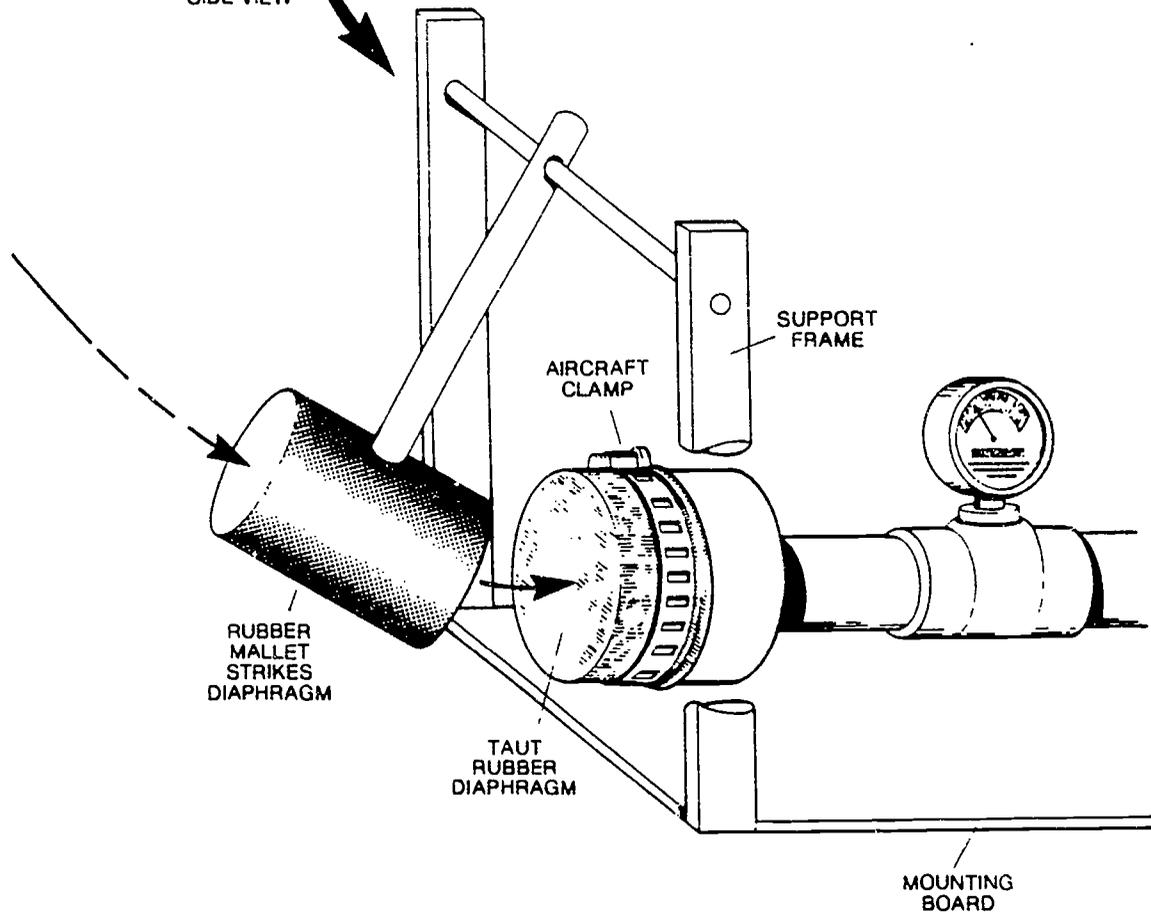

Fig. 5 Lab setup for hydraulic-shock device.
1. Study Figure 5. The pipe assembly, from rubber diaphragm to porthole in bucket, is generally mounted on a board. The support frame for the rubber mallet is attached—or can be attached—to the board, as shown in the exploded view.
4. Pour water into the 5-gallon container until the water level rises about 2 inches—no more—above the center of the pipe assembly. See Figure 5. Make sure the pipe assembly is watertight before proceeding with the laboratory observations.